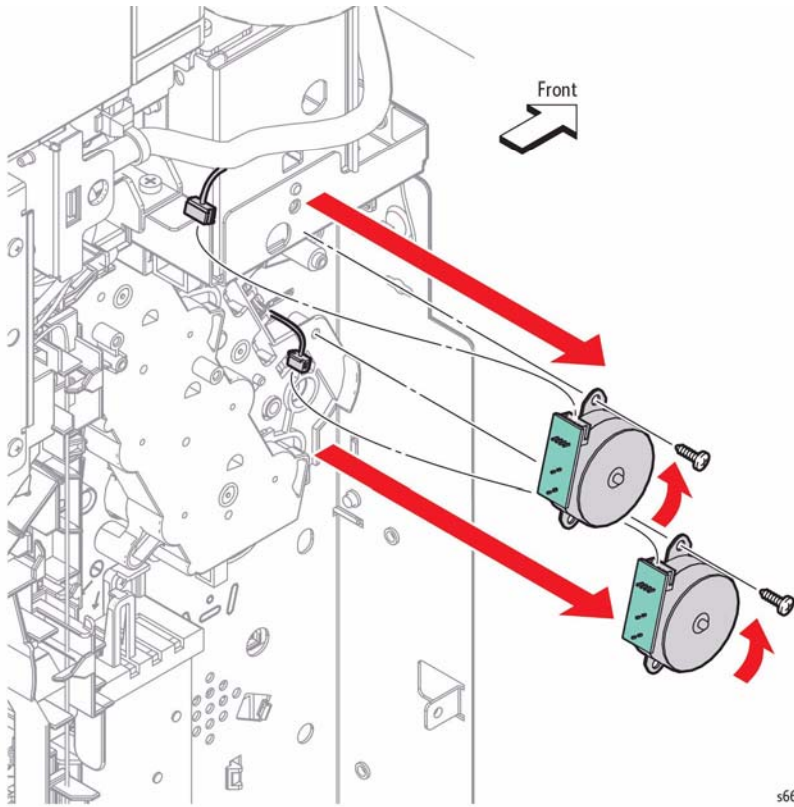

Figure 3 Remove the Dispenser Motors
11. Refer to Figure 3 to locate and remove the screws that attach each Dispenser Motor (silver, tapping, 8 mm) and remove each Dispenser Motor by rotating them counterclockwise.